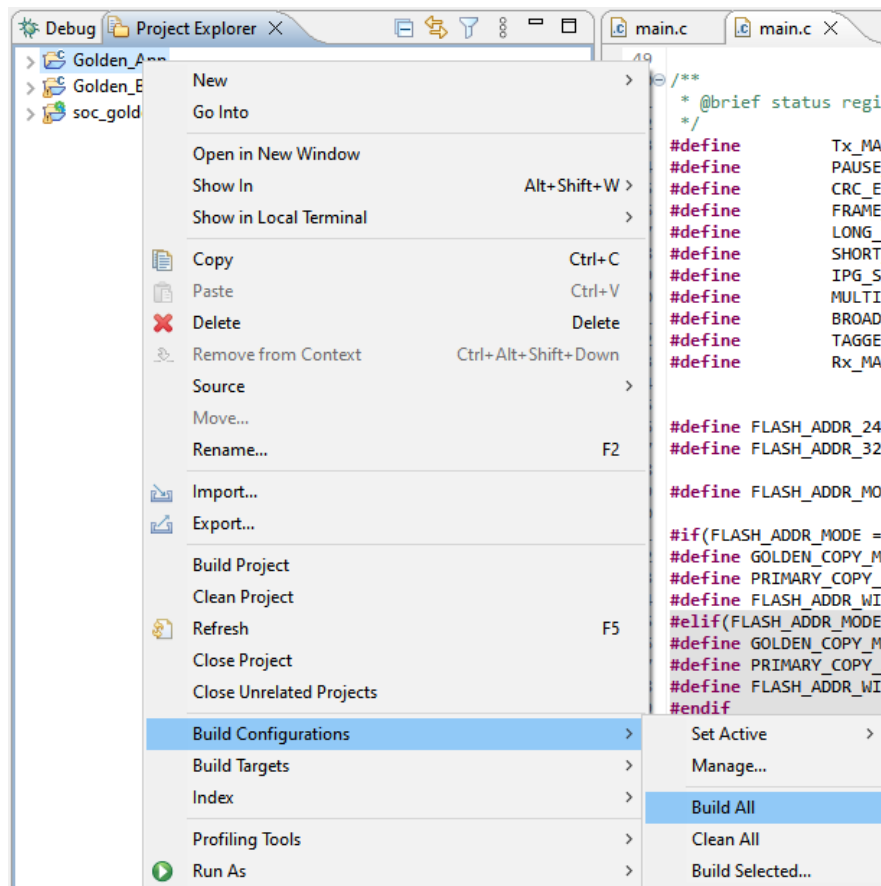

Figure A.30. Build All
3. After cleaning, right-click on **Golden_App** and select the **Build All** option as shown in Figure A.30 to build the project.